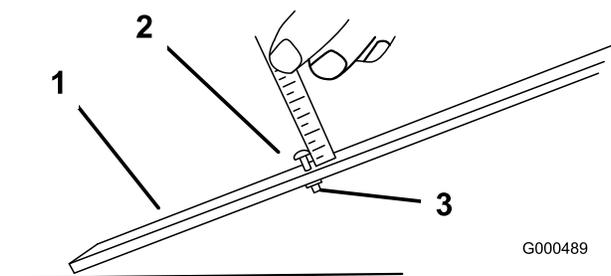

Figure 61
2. Loosen nut on gauge bar (Figure 61) and set adjusting screw to desired height-of-cut. Distance between bottom of screw head and face of bar is height-of-cut.